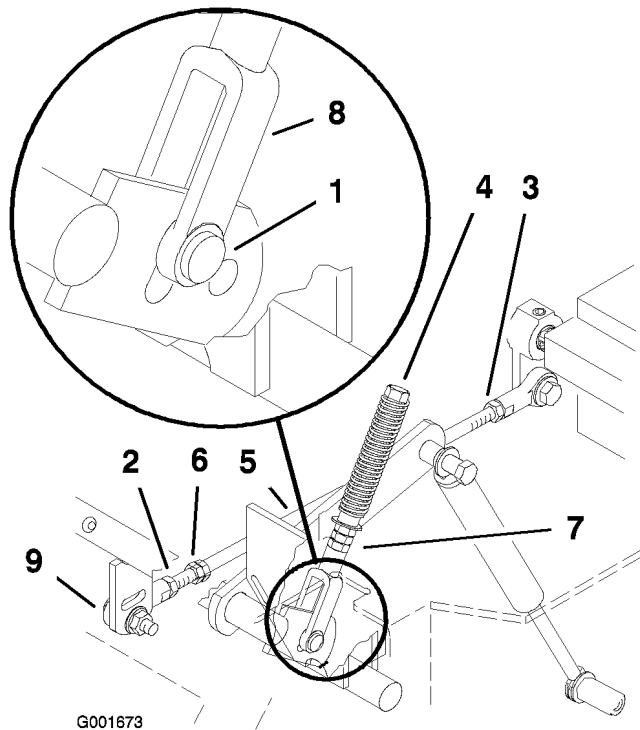

Figure 53
6. Pull the lever back until the clevis pin (on the arm below the pivot shaft) contacts the end of the slot (just beginning to put pressure on the spring) (Figure 53).
8. If adjustment is needed, loosen the nut and jam nut against the yoke (Figure 53).
10. Tighten the nut and jam nut (Figure 53).